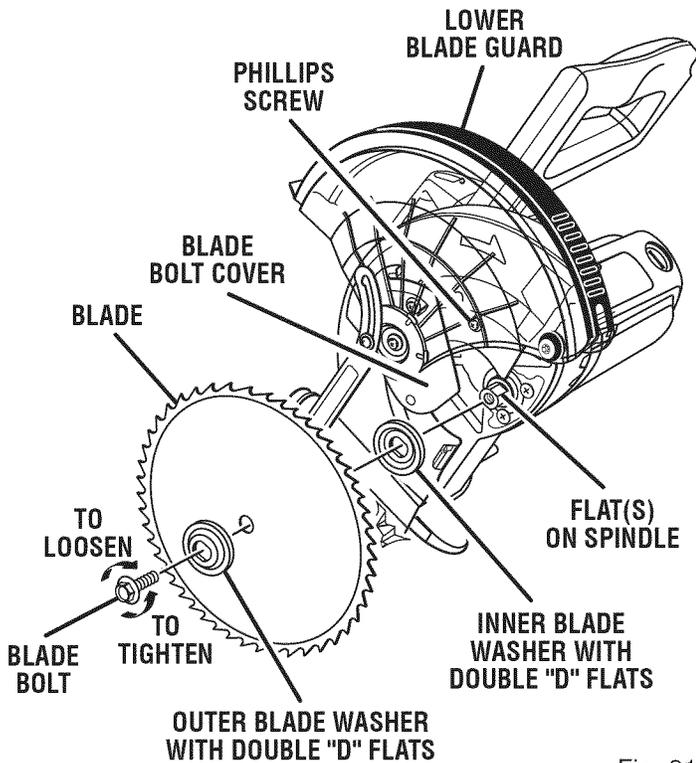

Fig. 21
- Fit saw blade inside lower blade guard and onto spindle. The blade teeth point downward at the front of saw as shown in figure 21.